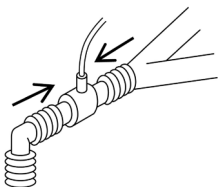

Figure 1
1. Connect the Airway Adapter to the proximal end of the breathing circuit between the endotracheal tube and the ventilator Y-section as shown in Figure 1.